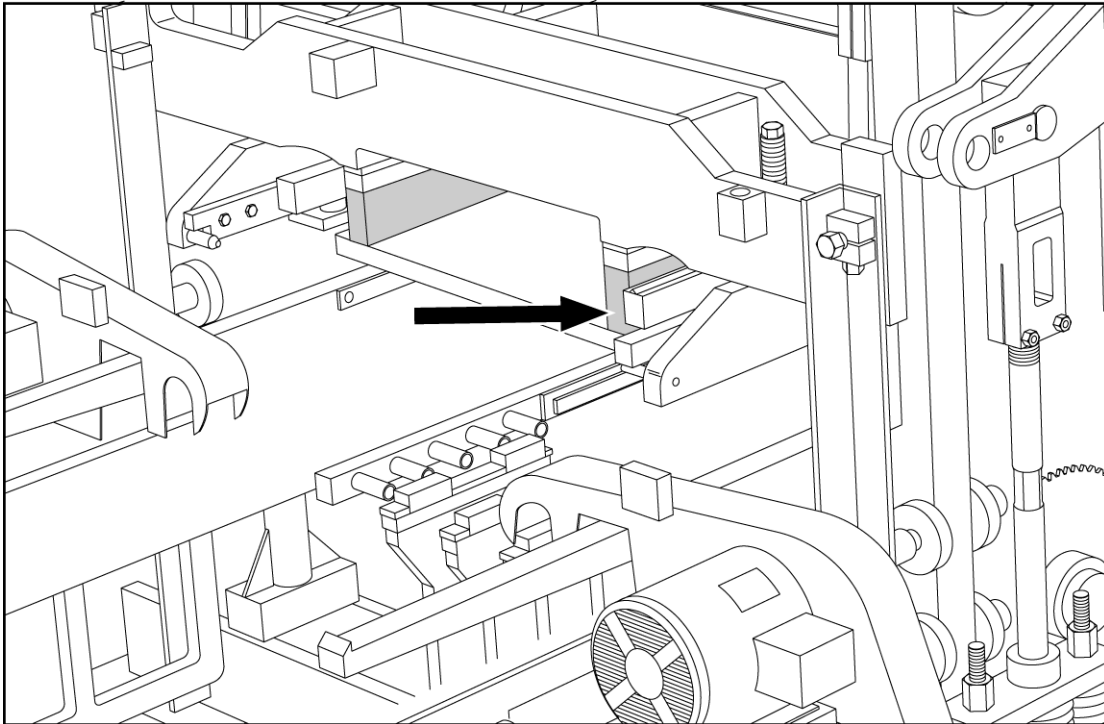

Figure 4.46 95MM [3 3/4"] BLOCKING UNDER STRIPPER HEAD FRAME
- 4.3.9 The ULTRAPAC II is now ready for the installation of the mold assembly. Follow the directions for installing an attachment in section 5 of this manual. When installing the stripper head, use **356mm [14"]** long bolts (**part #087159**) and insert **95mm [3 3/4"]** of blocking in addition to the **38mm [1 1/2"]** blocks already affixed to the stripper head frame (figure 4.46).